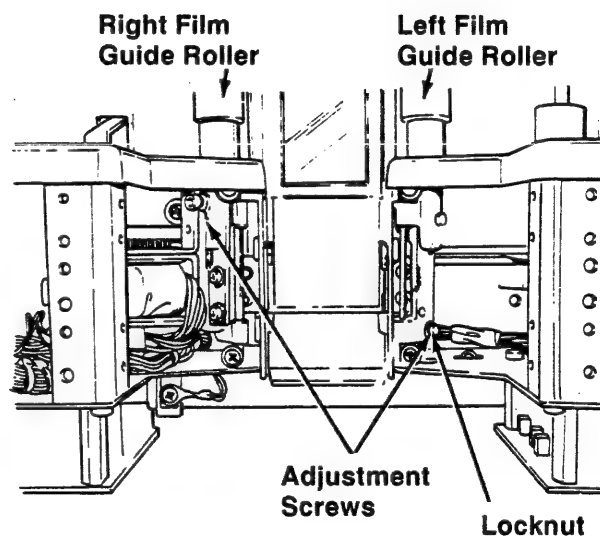

Figure 3-9A
9. Loosen the Locknut and turn the Adjustment Screw for the Left Film Roller clockwise to lower the film and counterclockwise to raise the film as required (Figure 3-9A).
10. Turn the Adjustment Screw for the Right Film Roller counterclockwise to raise the film and counterclockwise to lower the film as required (Figure 3-9A).